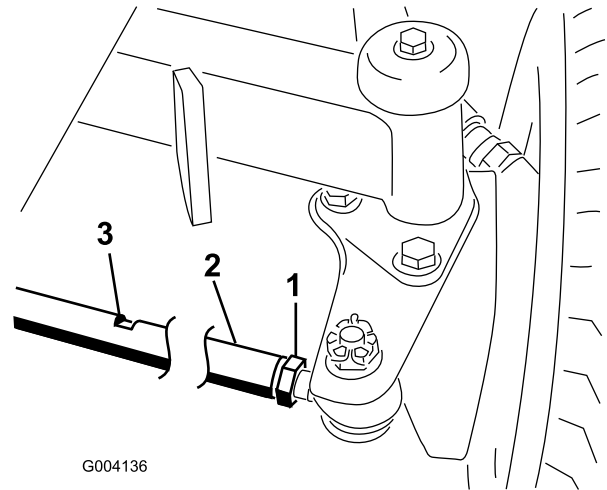

Figure 56
2. Loosen the jam nut on each end of the tie rod (Figure 56).